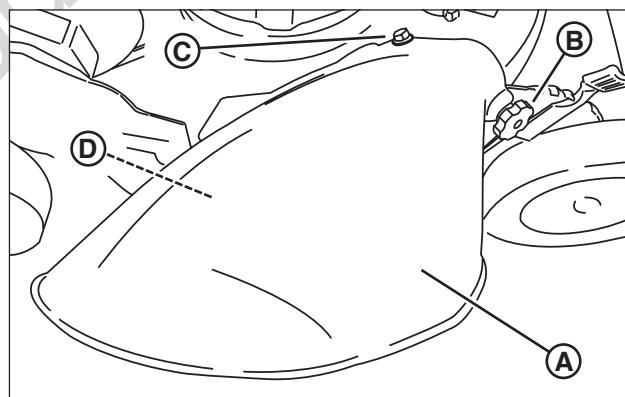

Figure 9: Installing the discharge deflector
2. Install the deflector (**A**, Figure 9) to the deck in place of the mulching cover, making sure that: